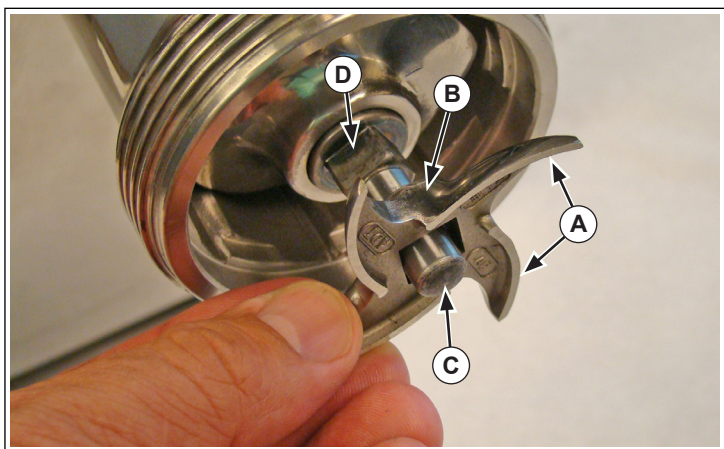

Figure 4. Knife Blade and Blade Shaft
- Slide the worm gear assembly (B) and the shaft washer (A) into the grinder chamber (C). Slide the worm gear shaft (D) in until it is seated fully.
8. Slide the knife blade (B) so that the flat ground edges (A) face to the outside as shown, onto the blade shaft (C). See Figure 4.